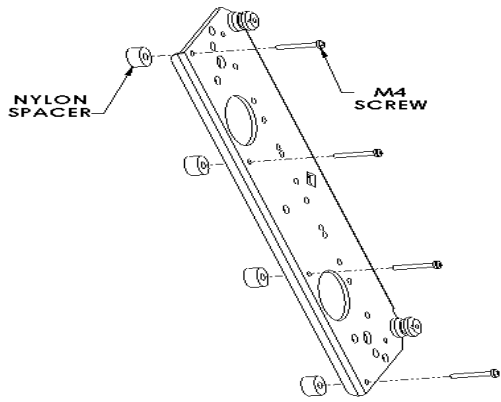
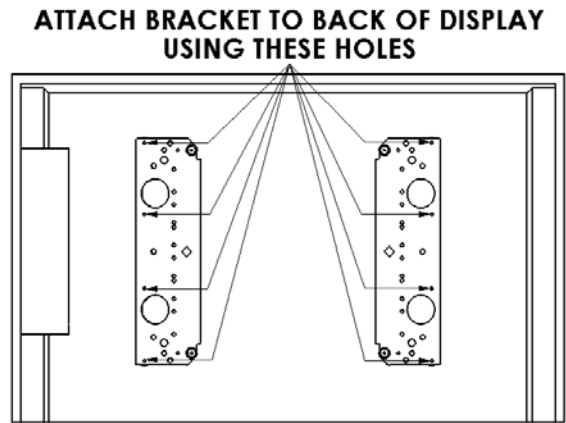

Figure 4
Figure 5
3. Place Nylon spacers on mounting holes and align hole pattern on brackets with pattern on back of display (see Figure 4 and Figure 5). Attach bracket using the M4 screws.